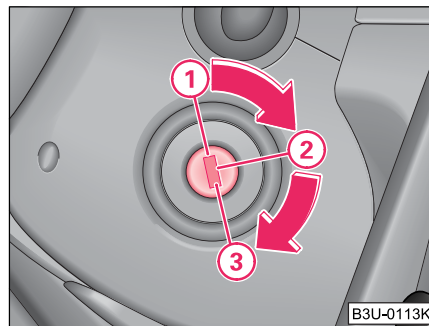

Fig. 83 Ignition lock positions
- The engine can be switched off by turning the ignition key from position ⇒ page 95, fig. 83 into position ①.